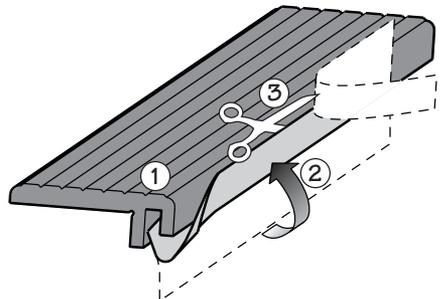

Figure 2: Applying the optional UHMW tape. (Traveller body not shown for clarity.)
1. Remove the tape backing and stick it to the inner hook of the traveller as illustrated in **Figure 2**. Be sure that it is well adhered.